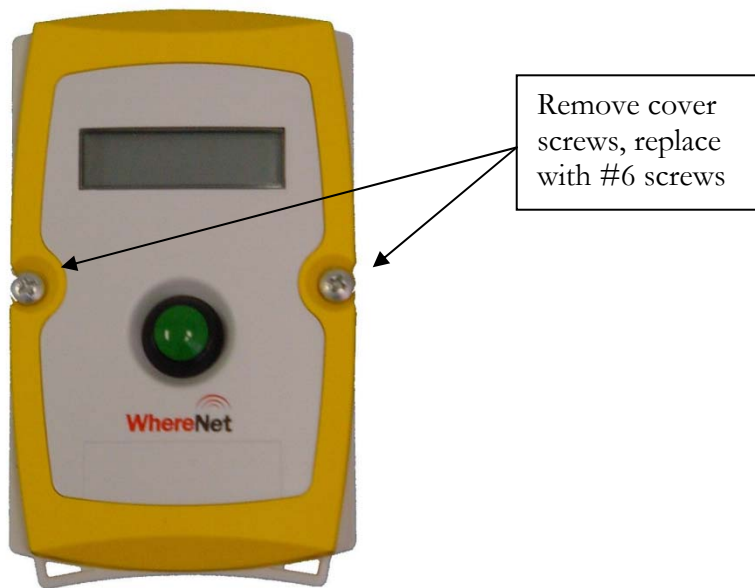

Figure 5: Cover screws
5. Remove front cover screws as shown in Figure 5.
1. Remove front panel screws as shown in Figure 5. Insert #6 threaded screws provided with bracket through holes in front panel of WhereCall III+.